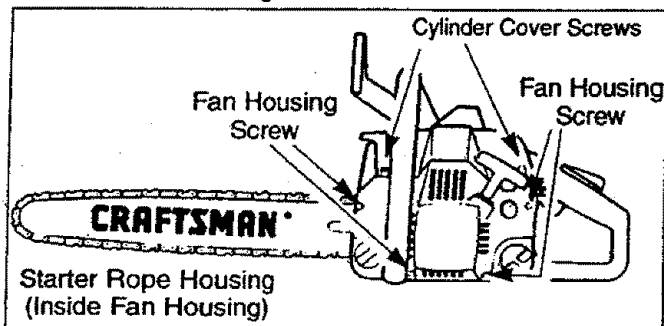

Figure 44
STARTER ROPE REPLACEMENT (Fig. 44, 45, 46, 47 & 48)
- Reinstall the 4 fan housing screws and tighten the 2 cylinder cover screws. Figure 44.